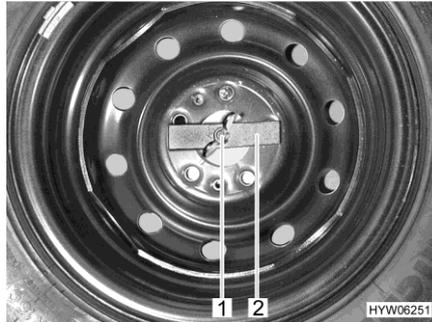

Fig. 185 Spare wheel in the rear storage space
- Loosen the wing nut (Fig. 185,1) and unscrew it.
- Remove the pad (Fig. 185,2).